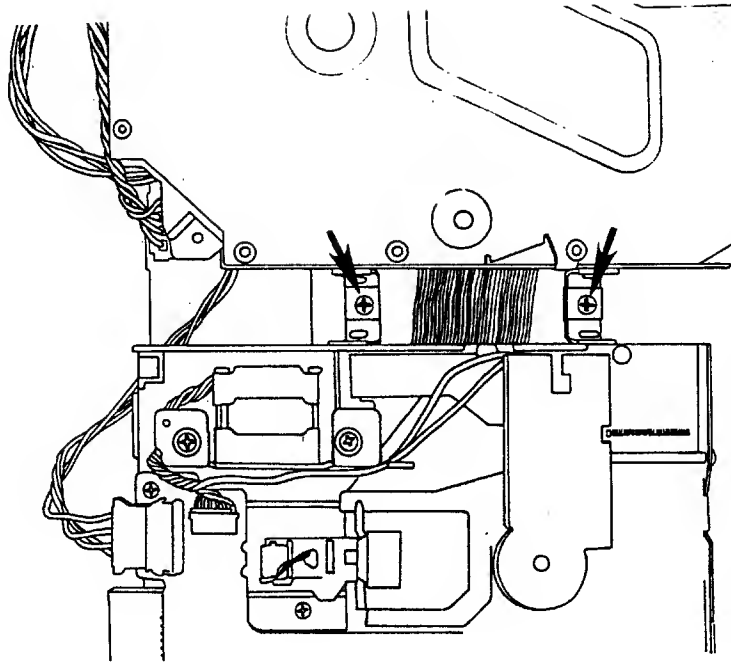

Figure 6-2: Disk Drive Removal
2. Remove the two mounting screws between the hard disk and the floppy disk drive (see Figure 6-2).